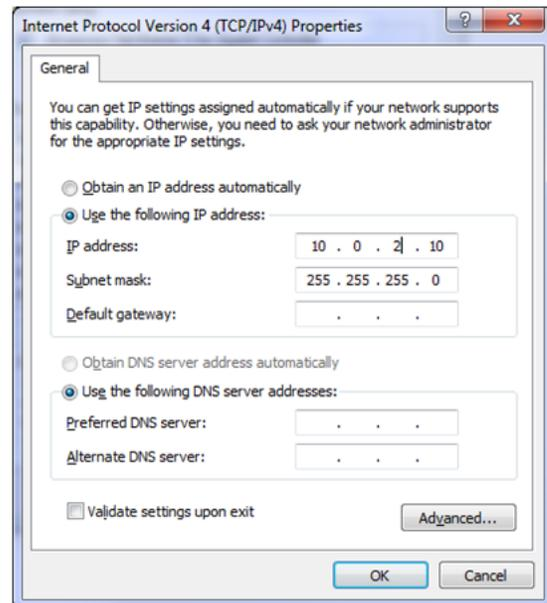

Figure 2.3
7. In the General tab select “Use the following IP address” - Figure 2.3